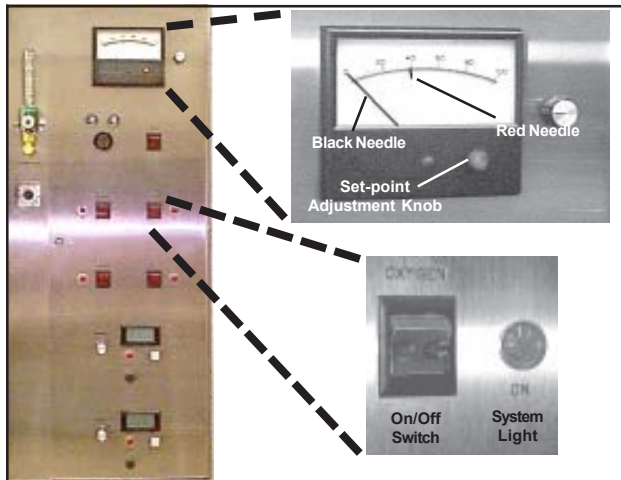

Figure 54. Oxygen Controls
3. Press the oxygen on/off switch. The amber light in the switch comes on (Figure 54). If the set-point needle is to the right of the calibration needle, oxygen begins flowing and the red system light comes on.